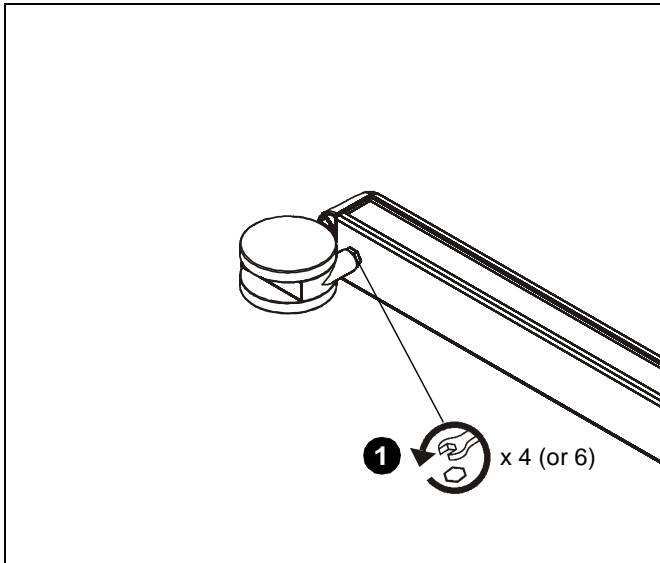

Figure 1
1. Using a wrench, loosen the bolts and remove the four or six casters currently installed on the LVM cart. (See Figure 1)